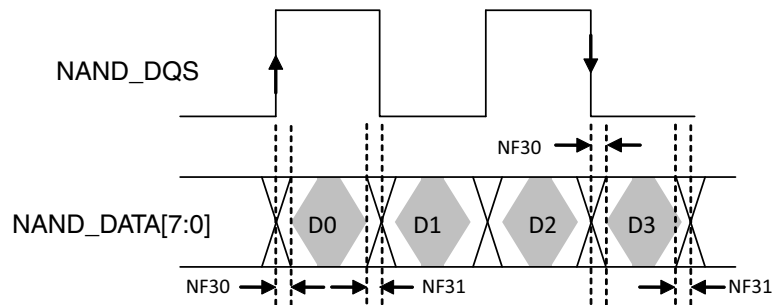

Figure 33. NAND_DQS/NAND_DQ Read Valid Window
For DDR Source sync mode, Figure 33 shows the timing diagram of NAND_DQS/NAND_DATAxx read valid window. The typical value of tDQSS is 0.85 ns (max) and 1 ns (max) for tQHS at 200 MB/s. GPMI will sample NAND_DATA[7:0] at both rising and falling edge of a delayed NAND_DQS signal, which can be provided by an internal DPLL. The delay value can be controlled by GPMI register GPMI_READ_DDR_DLL_CTRL.SLV_DLY_TARGET (see the GPMI chapter of the i.MX 6Solo/6DualLite reference manual). Generally, the typical delay value of this register is equal to 0x7 which means 1/4 clock cycle delay expected. But if the board delay is big enough and cannot be ignored, the delay value should be made larger to compensate the board delay.
- ⁷ Shown in Figure 33, NAND_DQS/NAND_DQ Read Valid Window.
For DDR Toggle mode, Figure 33 shows the timing diagram of NAND_DQS/NAND_DATA_{xx} read valid window. The typical value of tDQSQ is 1.4 ns (max) and 1.4 ns (max) for tQHS at 133 MB/s. GPMI will sample NAND_DATA[7:0] at both rising and falling edge of an delayed NAND_DQS signal, which is provided by an internal DPLL. The delay value of this register can be controlled by GPMI register GPMI_READ_DDR_DLL_CTRL.SLV_DLY_TARGET (see the GPMI chapter of the i.MX 6Solo/6DualLite reference manual). Generally, the typical delay value is equal to 0x7 which means 1/4 clock cycle delay expected. But if the board delay is big enough and cannot be ignored, the delay value should be made larger to compensate the board delay.